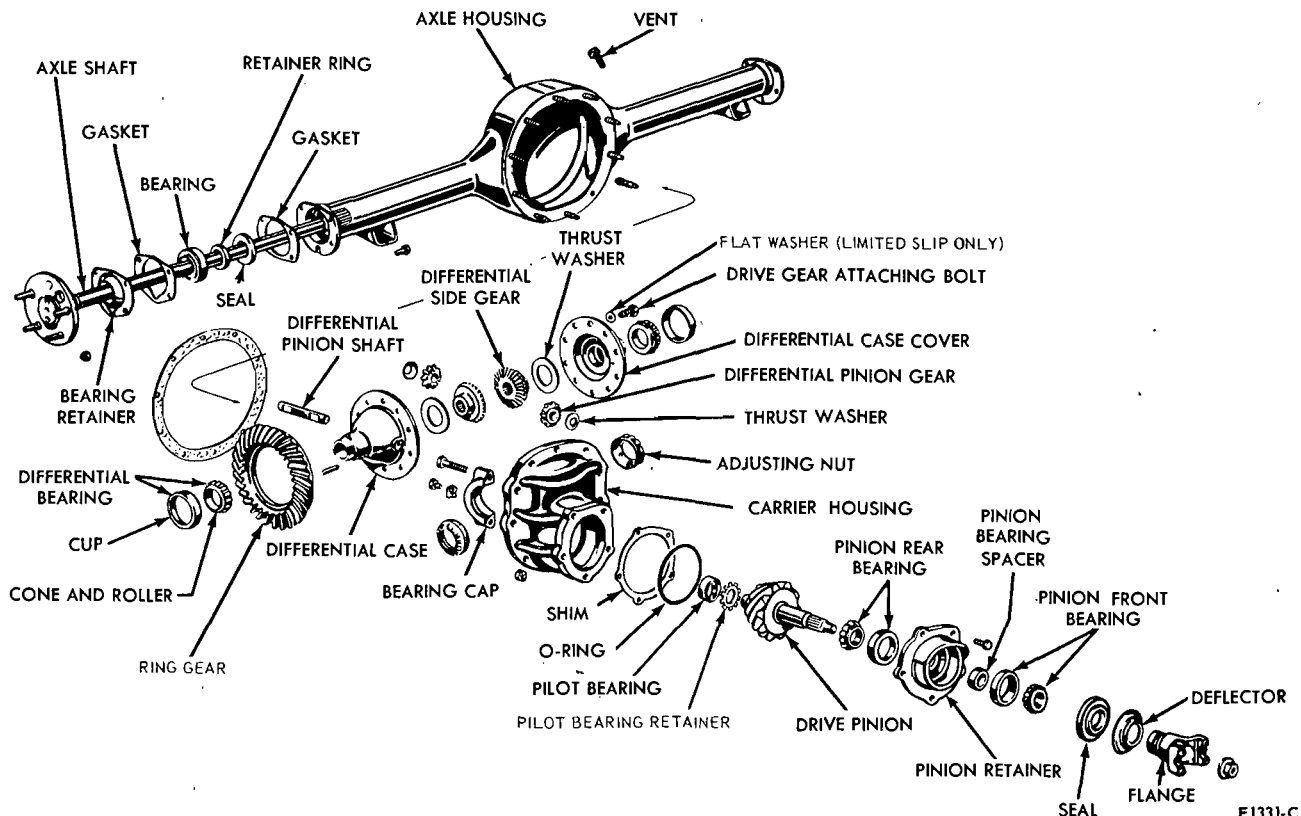

FIG. 44—Rear Axle—Disassembled
1. Mark one differential bearing cap and the mating bearing support with punch marks to help position the parts properly during assembly of the carrier. Also, mark one of the bearing adjusting nuts and the carrier with scribe marks for proper location during assembly (Fig. 44).
Refer to Part 4-1 for Cleaning and Inspection before starting assembly operations. Fig. 44 shows the disassembled parts.